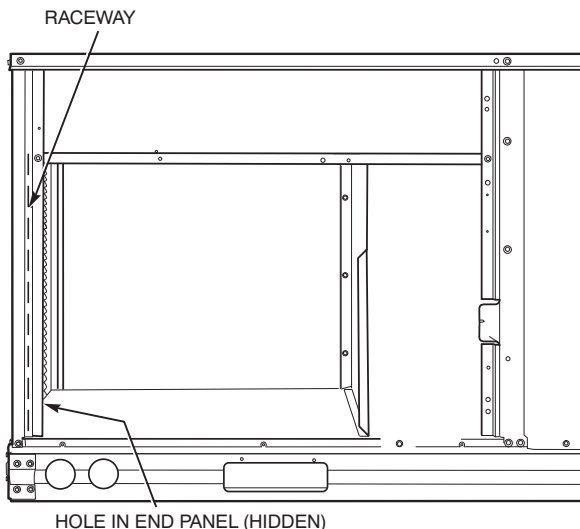

Fig. 35 — Field Control Wiring Raceway
Pass the thermostat control wires through the hole provided in the corner post; then feed the wires through the raceway built into the corner post to the control box. Pull the wires over to the terminal strip on the upper-left corner of the Unit Control Board. See Fig. 35.
2. Feed wires through the raceway built into the corner post (see Fig. 35) to the 24v barrier located on the left side of the control box. The raceway provides the UL-required clearance between high-voltage and low-voltage wiring.
2. Feed wires through the raceway built into the corner post (see Fig. 35) to the 24-v barrier located on the left side of the control box. The raceway provides the UL-required clearance between high-voltage and low-voltage wiring.